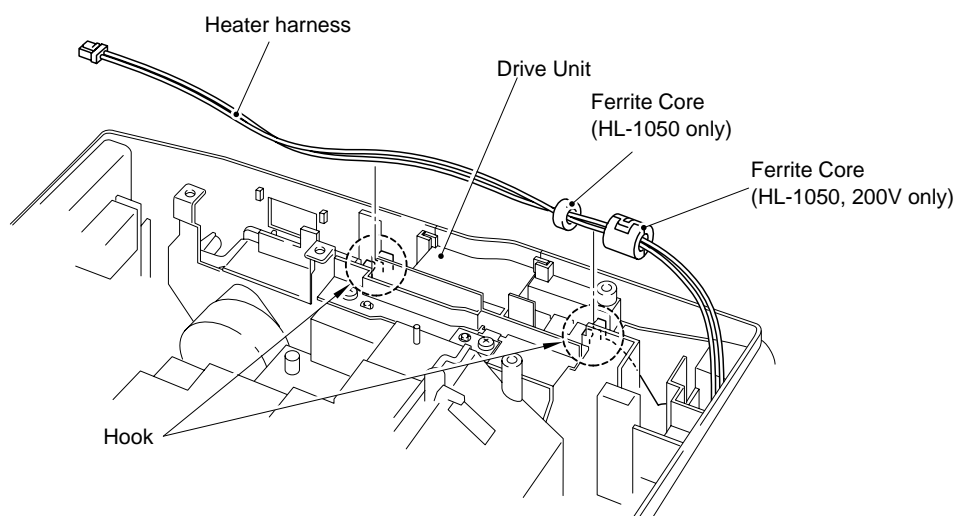
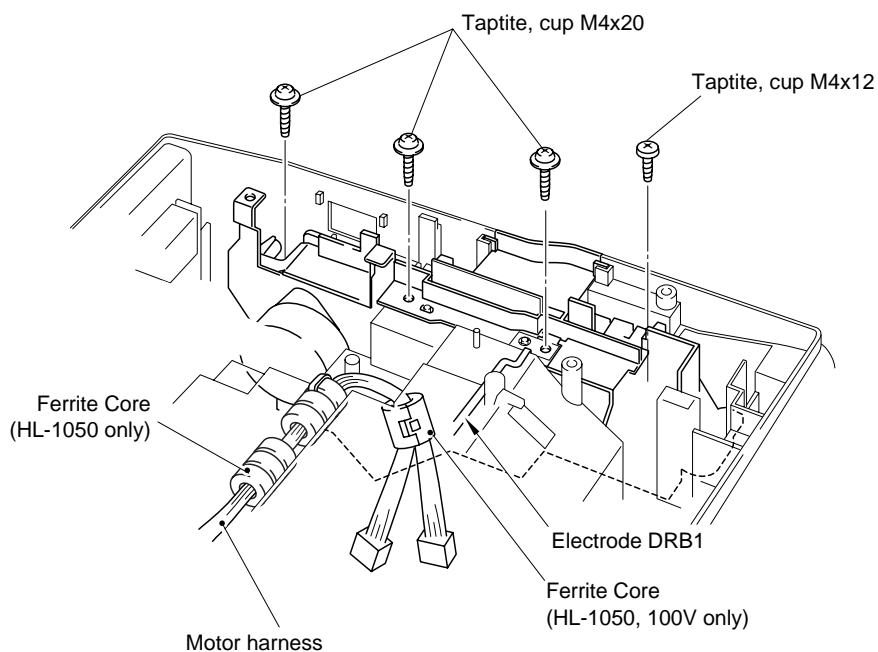

Fig. 3-26
Fig. 3-27
- When disassembling the drive unit, be sure to remove the eight ferrite cores of two types on the heater harness and the motor harness. (Refer to the figures in the previous page, Fig. 3-26 and Fig. 3-27.) The place where the bigger core should be assembled varies depending on the model.